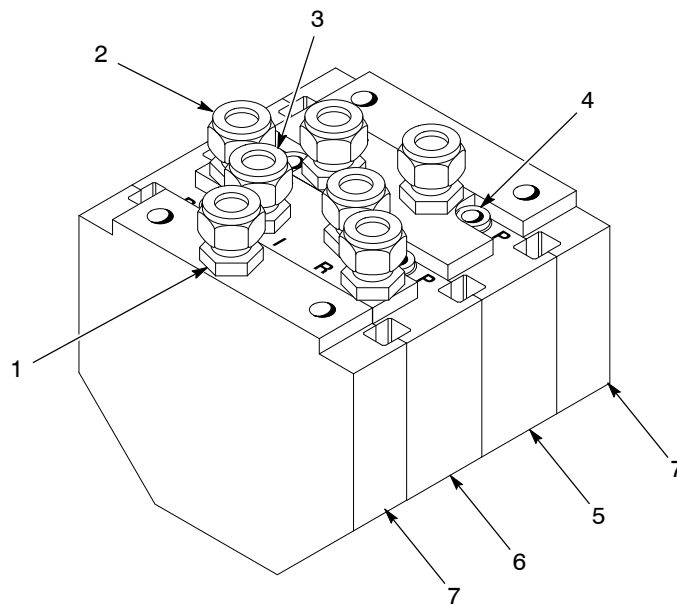

Figure 1 Color Change Manifold
See Figure 1. The low-pressure color change manifold allows you to make quick color changes with minimum material coating loss.
See Figure 1.
See Figure 1. Connect the 4-mm ($5/32$ -in.) air tubing by inserting the air line snugly into the air fitting (4).